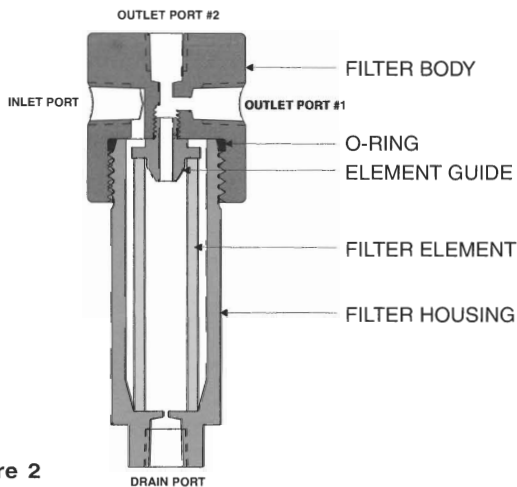

Figure 2
**3. ORIENTATION:** The **TYPE 30 / 30A / 30S FLOWGRID™ FILTER** should be installed with the Drain Plug down to allow drainage of liquids that may accumulate in the Filter Housing (Refer to Figure 2, page 2).